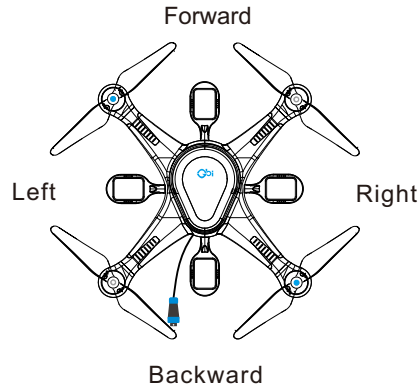

Figure 5: Drone Orientation Diagram
- ① To power on or use the mooring integrated box, you need to connect an external power supply.
- ② By default, when the drone is hovering in the air, please turn off the automatic cable retraction switch.
- ③ When the system is disconnected from the external power supply, the backup battery of the tethered box will supply power to the box and the drone, and the buzzer of the case will start to alarm, and the backup battery will stop supplying power after about 5 minutes. (If you want to stop the power supply from the backup battery of the tethered box quickly, please press the “Cable Retracting Switch” button on the top of the tethered box 10 times within 15 seconds)
- ① The direction of the drone itself (as shown in Figure 5), the rounded blue and white top cover is the nose, and the sharper part is the tail.
- ② When flying at night, the color of the lights on the bottom of the wings can be used to determine the direction of the drone; the side with the red light on is the nose, and the side with the blue light on is the tail.